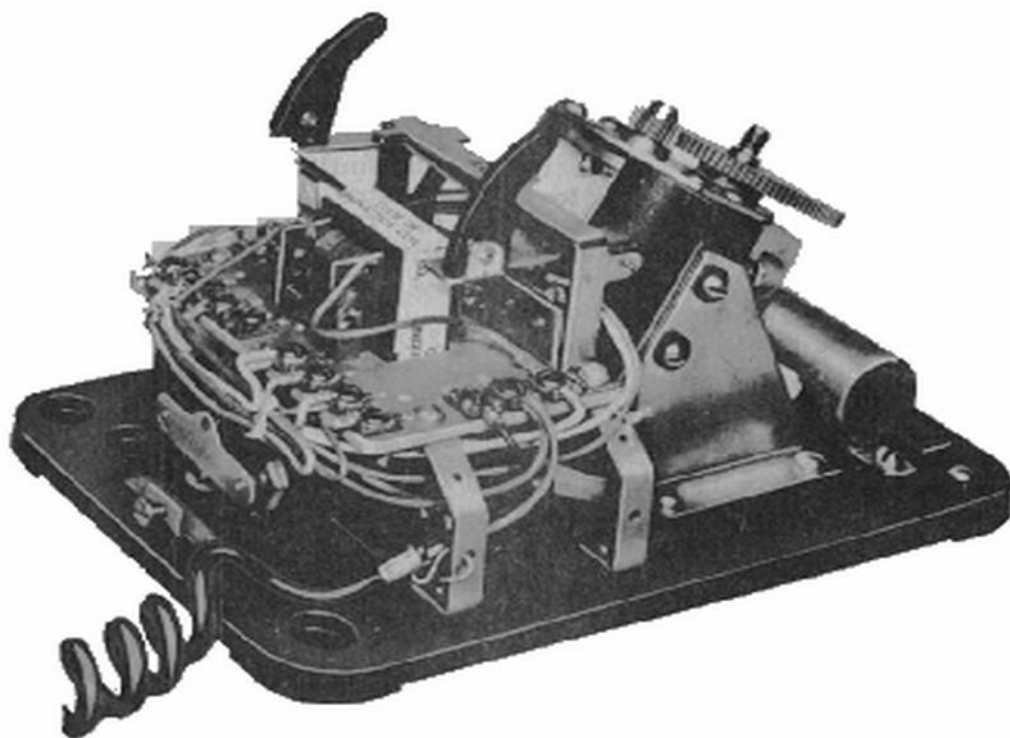

Figure 2. Interior View of Code 911 Telephone Set.
2.06 The basic structure of the 900-series set is identical to that of the 600-series common battery instrument, including the housing. A shallow, oval cup is inverted over the dial opening to provide clearance for a compact magneto generator, which is mounted to the base of the set by means of two angle brackets (see Figure 2). The generator magnet is a tunnel-shaped Alnico V casting which provides a field strength equivalent to that of a conventional five-bar, tall horseshoe assembly. Shaft-actuated contacts short-circuit the armature while at rest and connect the output to the line during operation. The shaft protrudes through an opening in the cup-shaped generator cover and is threaded to accept a crank arranged with a circular hub to which the number plate escutcheon is affixed. The escutcheon and number disc are arranged for two-point mounting on the centerline of the hub, so they may be reversed when converting from desk to wall service. An index point molded at the top (desk use) of the crank stroke on the surface of the generator cover serves to remind the user to align the crank (and thereby, the number disc) at the end of each ring.